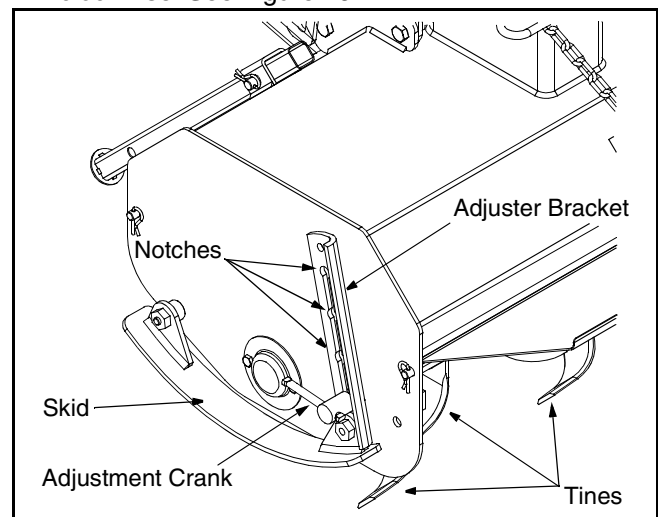

Figure 16
- Rotate the adjustment crank found on the right side of the tiller attachment six to eight turns counter-clockwise. See Figure 16.
- Position the skid up or down before tightening the adjuster crank into one of the four notches found on the skid adjuster bracket. See Figure 16.